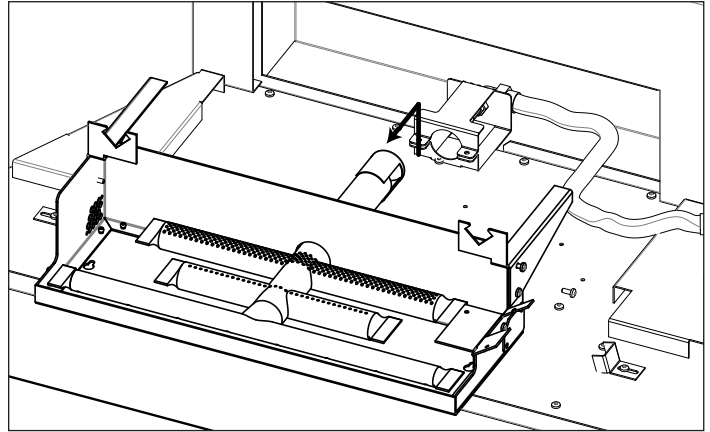

Figure 12: Log Burner Removal
9. Loosen the two (2) T-20 screws securing the burner to the firebox (see Figure 12). The burner has keyslot holes that allow the burner to then be removed without fully removing the screws.